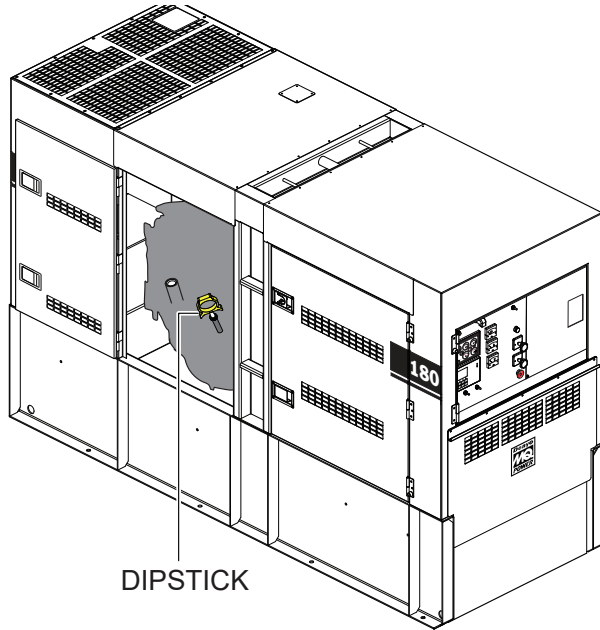

Figure 35. Engine Oil Dipstick Location
2. Remove the dipstick (Figure 35) from its holder and wipe it clean.